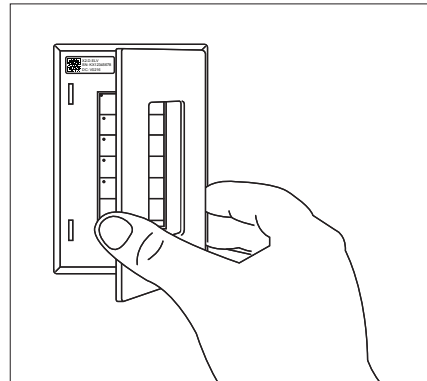

fig. 16
10. Attach Wall Plate to Wall Plate mount. It will snap into place (see figure 16).